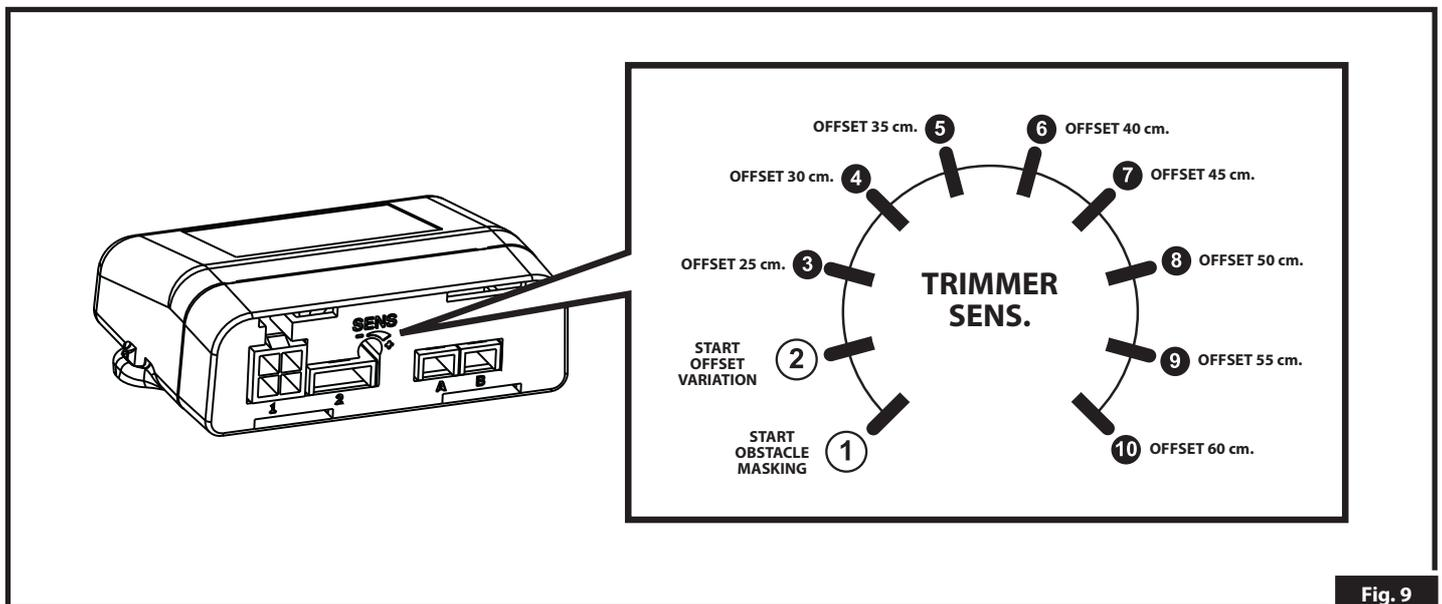

Fig. 9
NOTE: before to start the procedure, choose the offset value to be set; See in Fig.9 the corresponding trimmer position (ex. 45cm= Pos.7):
1. Unplug the main connector (1) from the Meta EasyPark2 control unit, turn on the ignition and engage the reverse gear.
2. Set the trimmer on position 2 (see figure 9).
2. Set the control unit for masking, by setting the trimmer on the step 1 (see fig. 9).